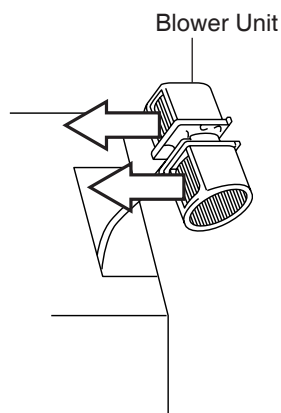

Fig. 1-2-2
- (3) Carefully lift the blower unit out of the product, and rotate blower unit 90 degrees so the exhaust ports are facing toward the front of the product. (Fig. 1-2-2)